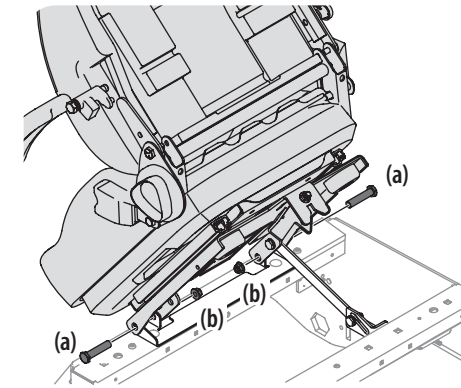

Figure 2-7
- Remove the two flange lock nuts (b) and shoulder bolts (a) from the manual bag. See Figure 2-7.
- Place the seat into position and secure the seat into place with the hardware as shown in Figure 2-7.